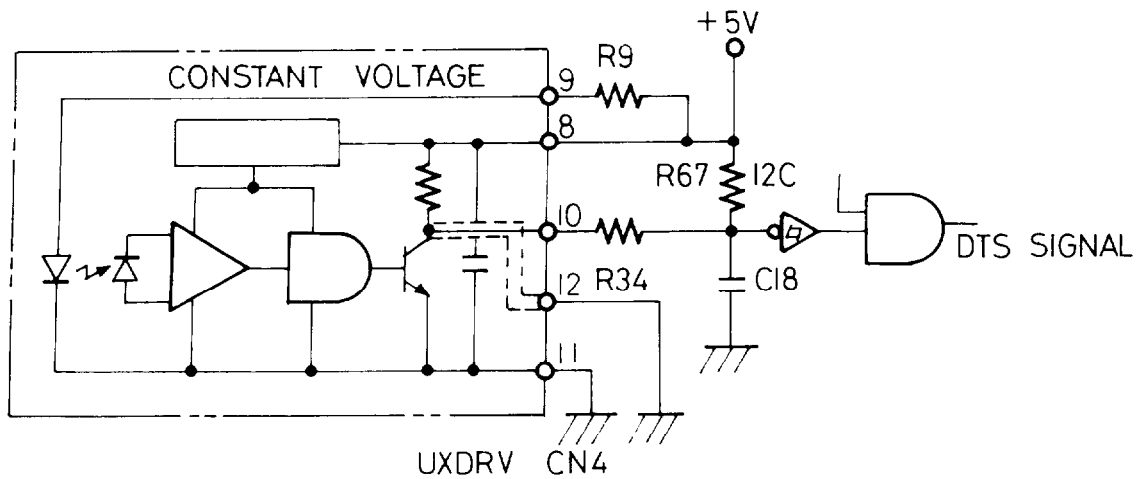

Fig. 2.22 DTS sensor circuit
3) DTS sensor circuit (Fig.2.22)
The DTS sensor circuit detects the print timing signal. This signal comes in three pulses in one period of MTS. As shown in Fig. 2.22, it operates the same way as the MTS sensor circuit.